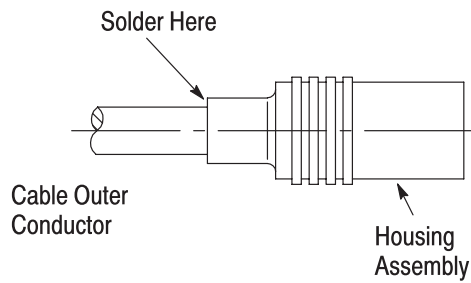

Figure 4
3. Solder the cable to the housing as shown in Figure 4.